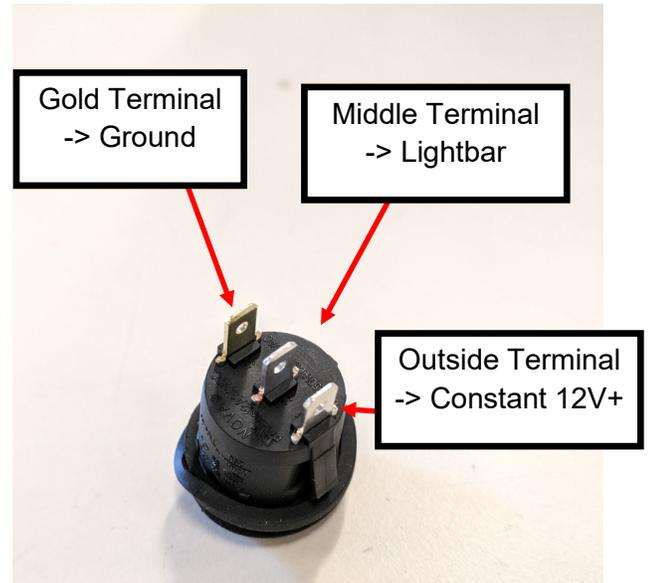

Figure 6. Switch terminal identification
2. Take a switched positive 12 volt power and tie it into the green wire. When 12 volt positive is applied to the green wire, the Blade will strobe. If using the provided switch, connect the gold terminal to vehicle ground, the middle terminal to green wire, and the final terminal to a constant 12 volt source (**Figure 6**).
3. Take a switched positive 12 volt power and tie it into the white wire. If using the provided switch, connect the gold terminal to vehicle ground, the middle terminal to white wire, and the final terminal to a constant 12 volt source (**Figure 6**).